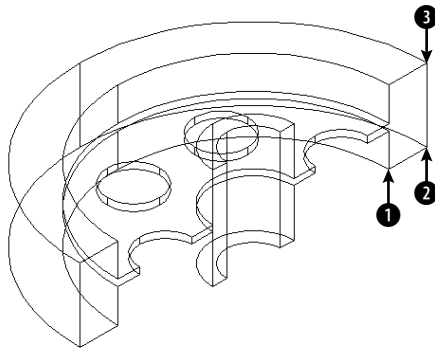

Figure 24-25: This 3D model was sliced and can now be mirrored.
1. If you have *ab24-04.dwg* open from the previous exercise, use this drawing. Use the **REGEN** command to remove the hidden view. If you don't have it open, open it from your **AutoCAD Bible** folder or from the **Results** folder of the CD-ROM. Make sure that **OSNAP** is on and set a running object snap for endpoint. If you don't have the **Solids Editing** toolbar open, right-click any toolbar and choose **Solids Editing** from the toolbar list. The drawing is shown in Figure 24-25.
[Object/Last/Zaxis/View/XY/YZ/ZX/3points] <3points>: *Pick 1 in Figure 24-25.*